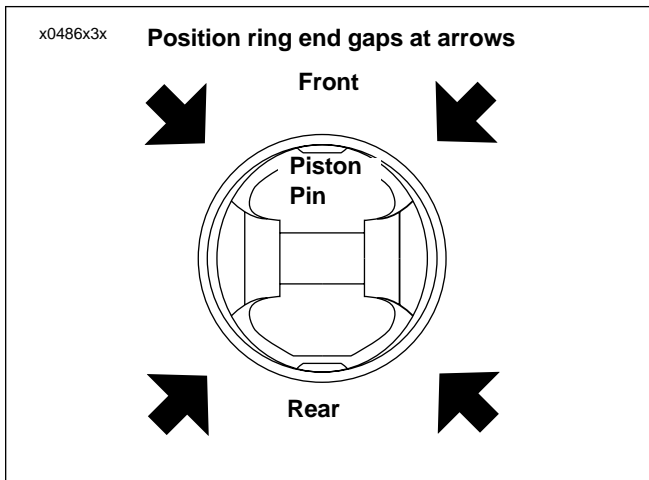

Figure 3-95. Ring End Gap Position
- See Figure 3-95. Install rings so end gaps of adjacent rings are a minimum of 90° apart. Ring gaps are not to be within 10° of the thrust face centerline.